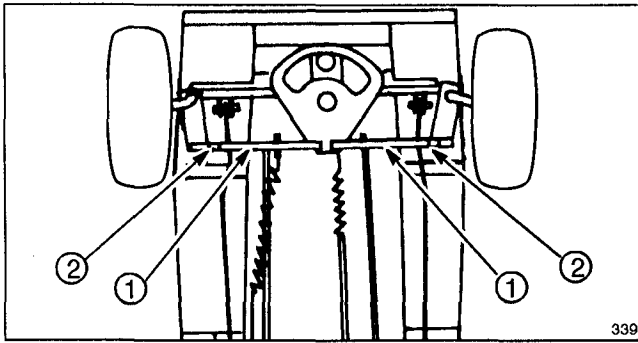

Figure 31
1. To align front wheels, loosen jam nut and turn tie rod end (there is only one adjustable tie rod) until centerline distance across front of wheels (d') is .06 inch (1.5 mm) to .25 inch (6.3 mm) less than centerline distance across rear of front wheels (d'') (Fig. 31 & 32).